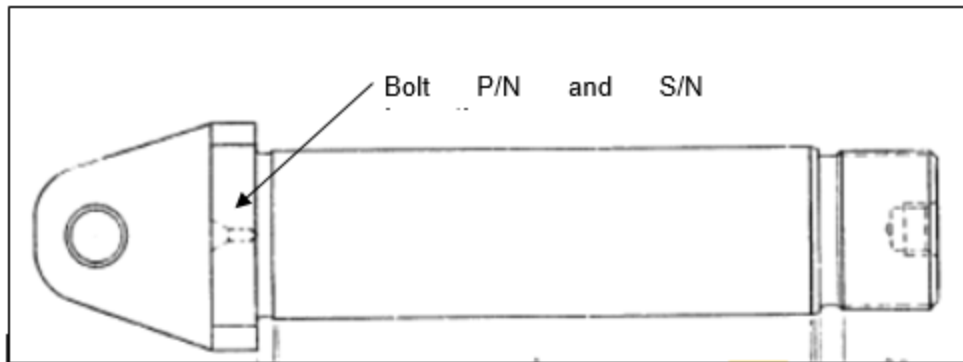

FIGURE 2 ID Location
3. Inspect all four spindle to yoke bolts P/N: 214-010-262-103 for physical verification of serial numbers listed in Table 1. (Refer to Figure 2)